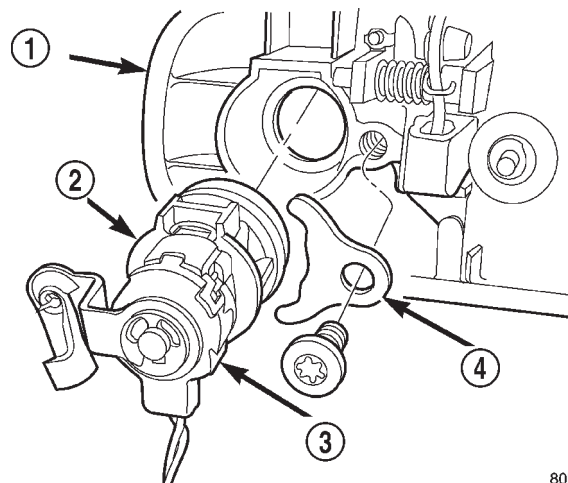

Fig. 13 Front Door Lock Cylinder
- (1) Remove outside door handle, refer to (Refer to 23 - BODY/DOOR - FRONT/EXTERIOR HANDLE - REMOVAL).
- (2) Remove screw securing lock cylinder retainer to outside door handle (Fig. 13).
- (3) Separate lock cylinder from door handle.
- (4) Disconnect lock cylinder switch, if equipped.
- (1) Connect lock cylinder switch, if equipped.
- (2) Position lock cylinder in door handle.
- (3) Position lock cylinder retainer and install screw (Fig. 13).
- (4) Install outside door handle, refer to (Refer to 23 - BODY/DOOR - FRONT/EXTERIOR HANDLE - INSTALLATION).